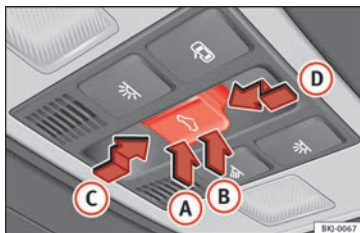

Fig. 123 On the interior roof lining: sunroof button.
The button  » **Fig. 123** has two levels. The first level switches the sunroof to the tilted position, opening or closing it fully or partially.
- Before approx. 5 seconds of having activated the anti-trap function, press the button **☰** » **Fig. 123** to the second level in the direction of arrow » **Fig. 123 D** until the sunroof closes completely.